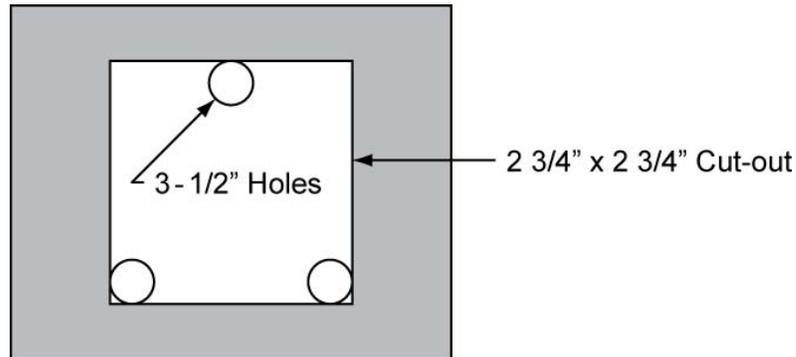

Figure 5: Square Hole and 1/2" Hole Layout
- Drill 3 - 1/2" holes inside the square hole as in Figure 5. They will be used to insert the jigsaw blade.